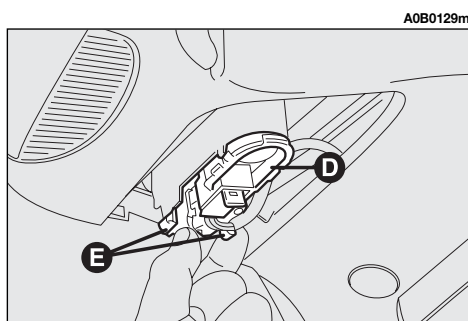

fig. 49
- Remove the bulb holder unit (**D**-fig. 49) pressing on the retainer tabs (**E**-fig. 49).
- Reinsert the bulb holder unit fitting it correctly between the retainer tabs (**E**-fig. 49).